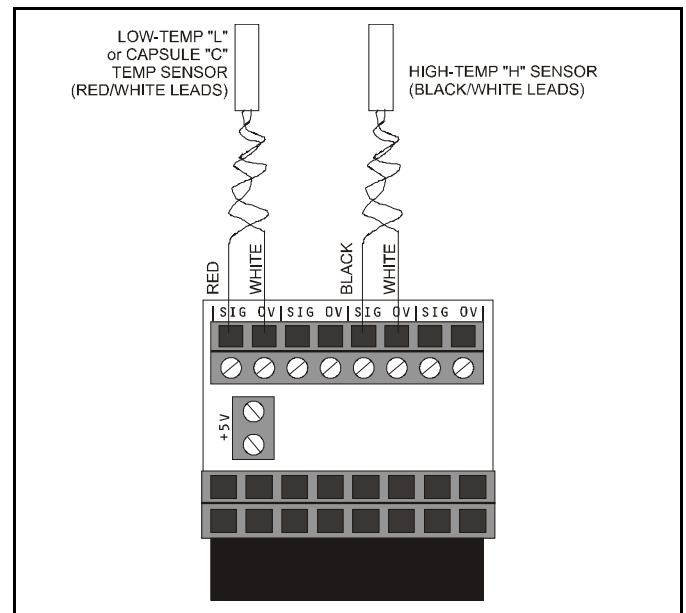

Figure 2 - Temp Sensor Wiring
2. Each ECI Temp Sensor Adapter has four pairs of screw terminals for connection to up to four ECI temperature sensors. Wire the leads of each sensor to the matching points on the adapter as shown in **Figure 2**.